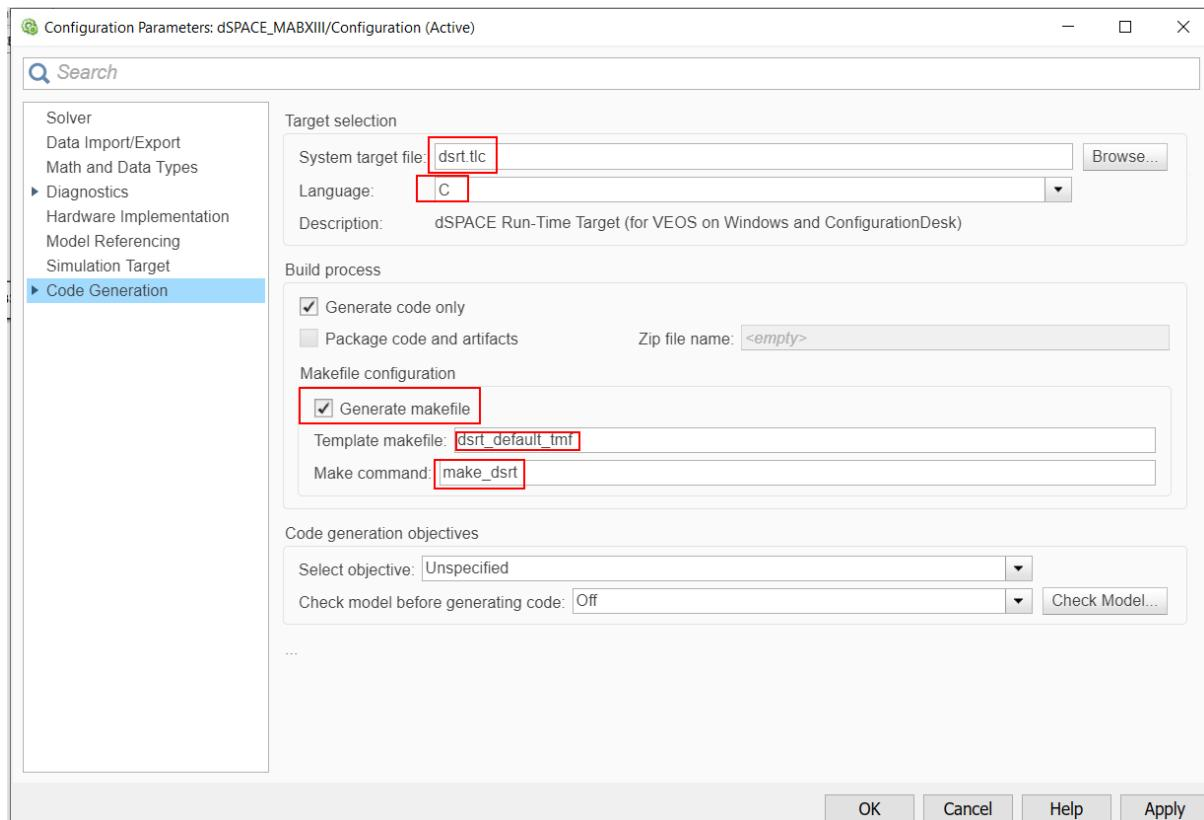

Figure 13.65: Set the Simulink code generation options.
- 9) In the “Code Generation” tab, set the options (see Figure 13.65):